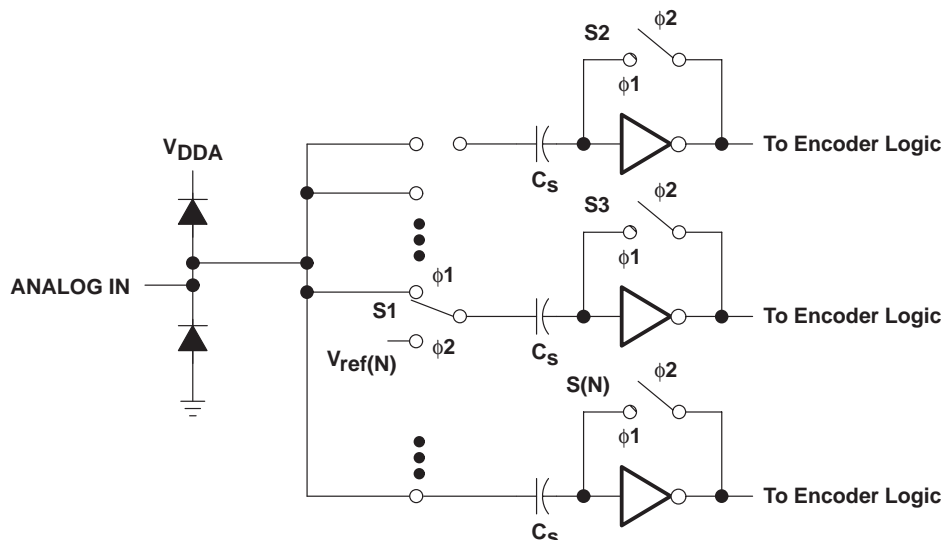

Figure 20. External Connections for Using the Internal Reference Resistor Divider
Figure 20 depicts the analog input for the TLV5510. The switches shown are controlled by two internal clocks, $\phi 1$ and $\phi 2$. These are nonoverlapping clocks that are generated from the CLK input. During the sampling period, $\phi 1$, S1 is closed and the input signal is applied to one side of the sampling capacitor, C_S . Also during the sampling period, S2 through S(N) are closed. This sets the comparator input to approximately 2.5 V. The delta voltage is developed across C_S . During the comparison phase, $\phi 2$, S1 is switched to the appropriate reference voltage for the bit value N, i.e., $V_{\text{ref}(N)}$. S2 is opened and $V_{\text{ref}(N)} - V_{C_S}$ toggles the comparator output to the appropriate digital 1 or 0. The small resistance values for the switch, S1, and small value of the sampling capacitor combine to produce the wide analog input bandwidth of the TLV5510. The source impedance driving the analog input of the TLV5510 should be less than 100 Ω across the range of input frequency spectrum.